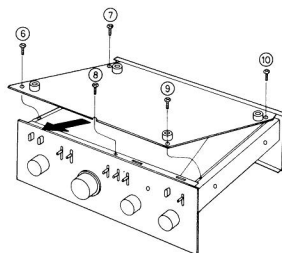

Fig. 2
2. Remove the five screws (fig. 2: ⑥ ~ ⑩) holding the bottom panel.
3. Because the rear edge of the bottom panel is inserted in the opening between the rear panel and the chassis, the bottom panel can be removed (in the direction shown by the arrow) by slightly lifting its front, as shown in figure 2.